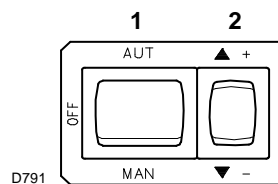
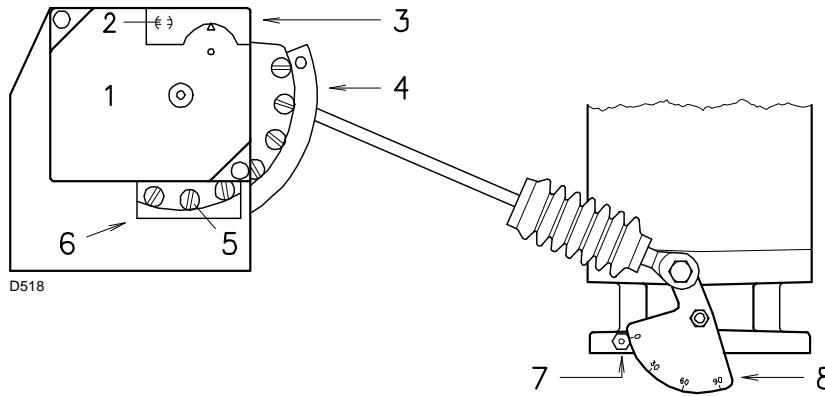
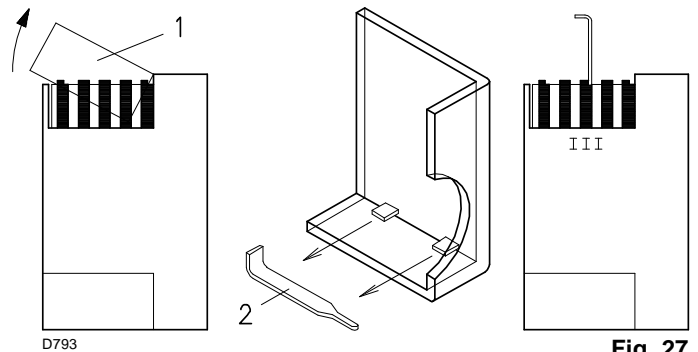

Fig. 25
Fig. 26
Fig. 27
Turn off the remote controls and set the switch 1)(Fig. 25) to "MAN".
Now press the "increase output" button 2)(Fig. 25), and keep it pressed until the servomotor has opened the air damper and the gas butterfly valve to 90°.
Progressively adjust the end profile of cam 4)(Fig. 26) by turning the screws of the cam that appear inside the opening 6)(Fig. 26).
Key (Fig. 26)
Press the “reduce output” button 2)(Fig. 25 on page 25) and keep it pressed until the servomotor has closed the air damper and the gas butterfly valve is at 20° (adjustment made in the factory).
- If it is necessary to reduce it, slightly decrease the angle of cam III (Fig. 27) with small, regular movements, i.e. bring it from an angle of 20° to 18° - 16°....
- If you need to increase it, lightly press the “increase output” button 2)(Fig. 25 on page 25) (open the gas butterfly valve by 10-15°), and increase angle of cam III (Fig. 27) with a series of small movements, i.e. move from angle 20° to 22° - 24°....
To adjust cam III, remove the snap action cover 1)(Fig. 27), remove the relative key 2) from inside and insert it into the notch of cam III.
Progressively adjust the beginning profile of cam 4)(Fig. 26) by turning the screws of the cam that appear inside the opening 6)(Fig. 26).
Lightly press the “increase output” button 2)(Fig. 25 on page 25) so that a new screw 5)(Fig. 26) appears inside the opening 6)(Fig. 26), adjust it until optimal combustion is obtained.
Switch off the burner using the switch 1)(Fig. 25 on page 25), position OFF, release the variable profile cam from the servomotor putting the notch 2)(Fig. 26) in the vertical position.